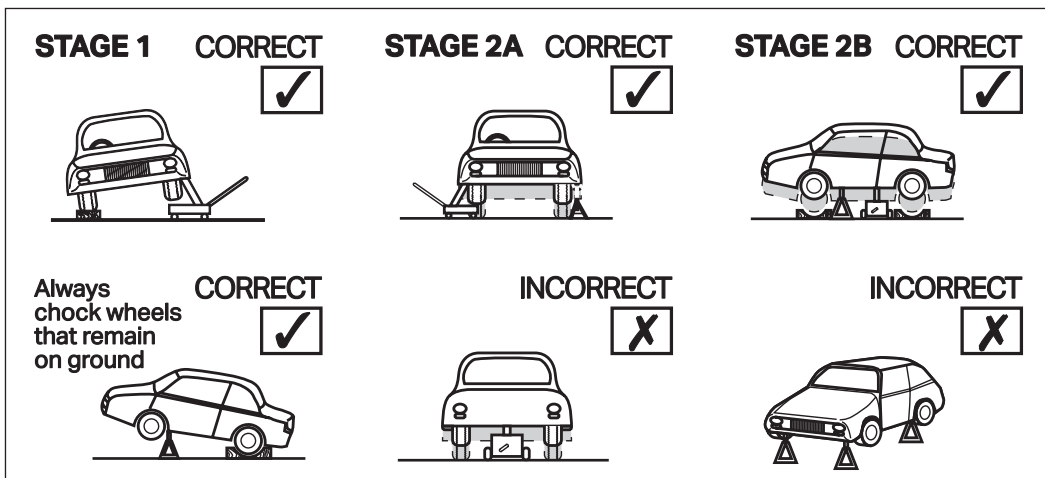

Fig. 2
- Follow the illustrations for safe usage on the side of the axle base (see Fig.2).